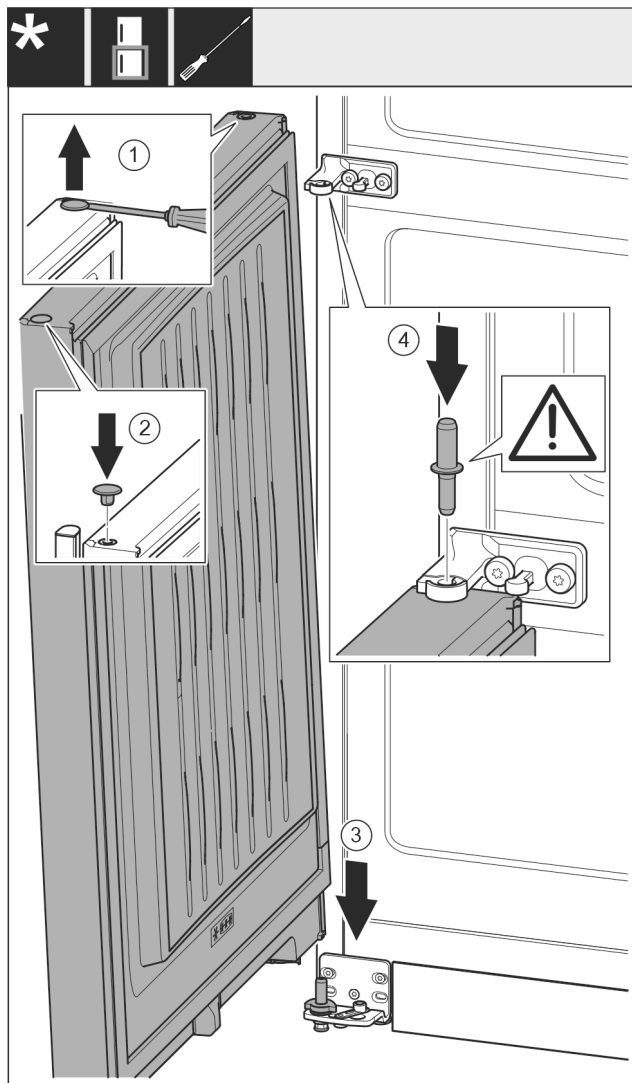

Fig. 22
- Use a slotted screwdriver to lift the plug Fig. 22 (1) carefully and pull it out.
- Re-insert the plug Fig. 22 (2) on the other door side.
- Lower the door Fig. 22 (3) onto the bottom bearing bolt.
- Insert the centre bearing bolt Fig. 22 (4) through the centre bearing block in the lower door. Ensure that the latching cam is pointing towards the rear.